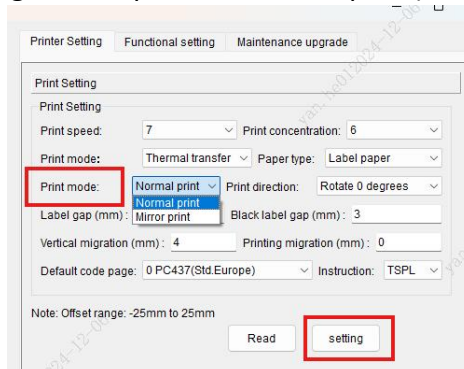

Fig.10
- ⑤ **Print Mode:** Including normal print and mirror print (shown in Fig.10).